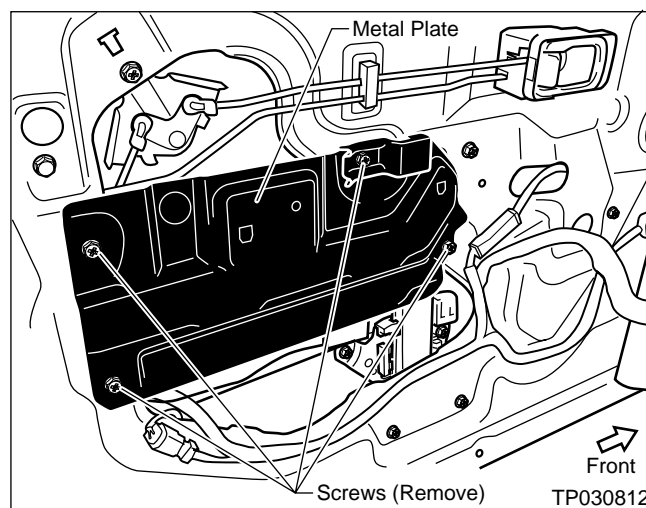

Figure 32
12. Take out four screws and remove the Metal Plate (see Figure 32).